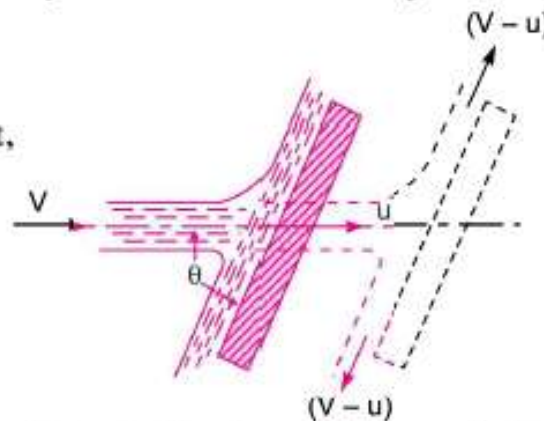

Fig. 17.11 Jet striking an inclined moving plate.
17.4.2 Force on the Inclined Plate Moving in the Direction of the Jet. Let a jet of water strikes an inclined plate, which is moving with a uniform velocity in the direction of the jet as shown in Fig. 17.11.